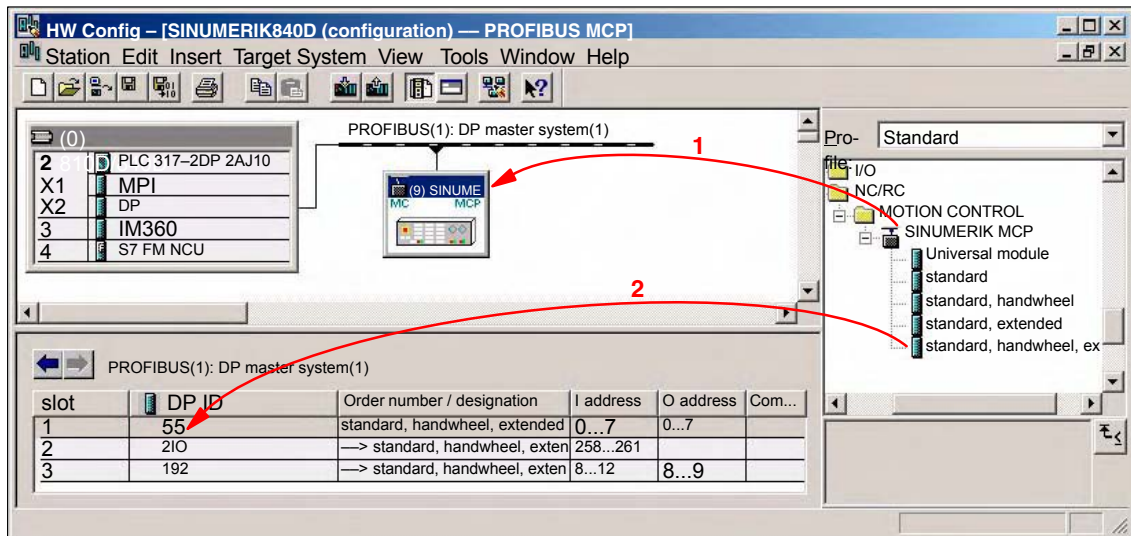

Fig. 8-14 Configuration with DP slave: MCP 310
This section describes the configuration of a DP slave: MCP 310 with the aid of the sample configuration of a SIMATIC S7 project as shown in Fig. 8-14.
1. Insert DP slave: MCP 310 in the configuration (see Fig. 8-14, Page 8-195: 1)
3. Insert the modules in DP slave: MCP 310 for the functions required. (see Fig. 8-14, Page 8-195: 2)